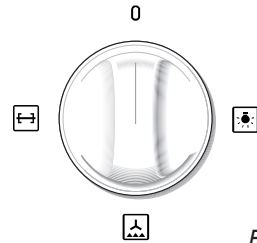

Fig. 2.6a
The fan is controlled by a knob (fig. 2.6a, 2.6b or 2.6c).
- To operate the fan motor turn the knob indicated in fig. 2.6a, 2.6b or 2.6c to  or  position. (In the position  also the rotisserie motor is operating).
To light the oven lamp turn the knob indicated in fig. 2.6a, 2.6b, 2.6c or 2.8 to the  position.
The oven is fitted with a rotisserie. To operate the rotisserie motor turn the knob indicated in fig. 2.6a, 2.6c or 2.8 to  or  position.